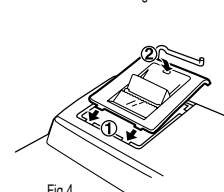

Fig. 4
9. Replace the printer cover. (Fig. 4)